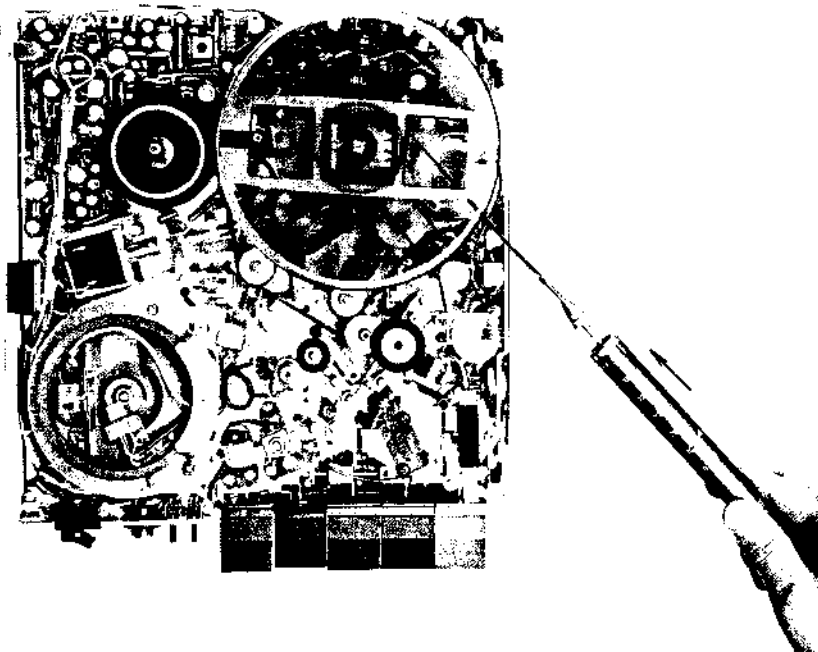

Fig. 1-11
- a) As shown in Fig. 1-11, use the same reel described in Part (5), Item (a), and set reel on take-up reel table. Using a 0 to 500g spring gauge, and being careful not to induce tape slack, read gauge value at fast forward mode while the tape is being rolled onto reel. It is satisfactory if fast forward torque is within 200 to 300g.